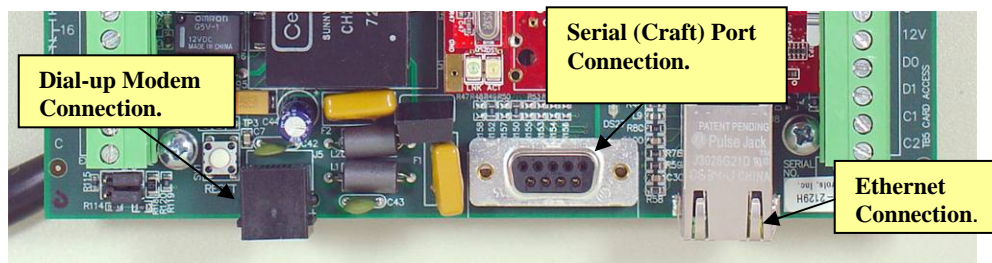

Figure 9: Bottom Panel of TELSEC[®] ESB with Connection Ports
Step 1: Connect the serial port on the bottom panel of the TELSEC[®] ESB to the serial port of a laptop using the 9-pin RS232 cable (Figure 9).
Step 1: Connect the telephone cable from the phone jack to the phone port on the TELSEC[®] ESB (Figure 9).
Step 1: Connect the supplied Ethernet cable to the RJ45 connector on the bottom of the TELSEC[®] ESB (Figure 9). Connect the other end to your facility's router in the assigned spot. If the router is not present, then route the cable to the area where the router will be installed and label the cable.